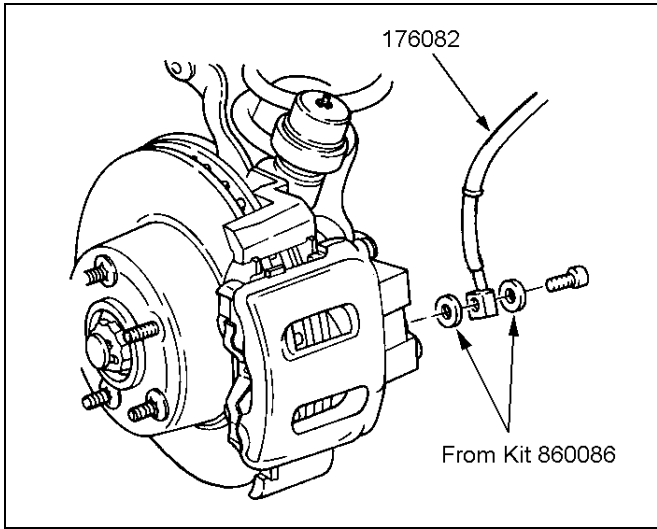

Figure 8
- 3) Attach left brake hose RS170082 to the caliper with NEW copper washers from kit RS860086, and the original bolt. See figure 8. Tighten the bolt to 23 ft.-lbs.